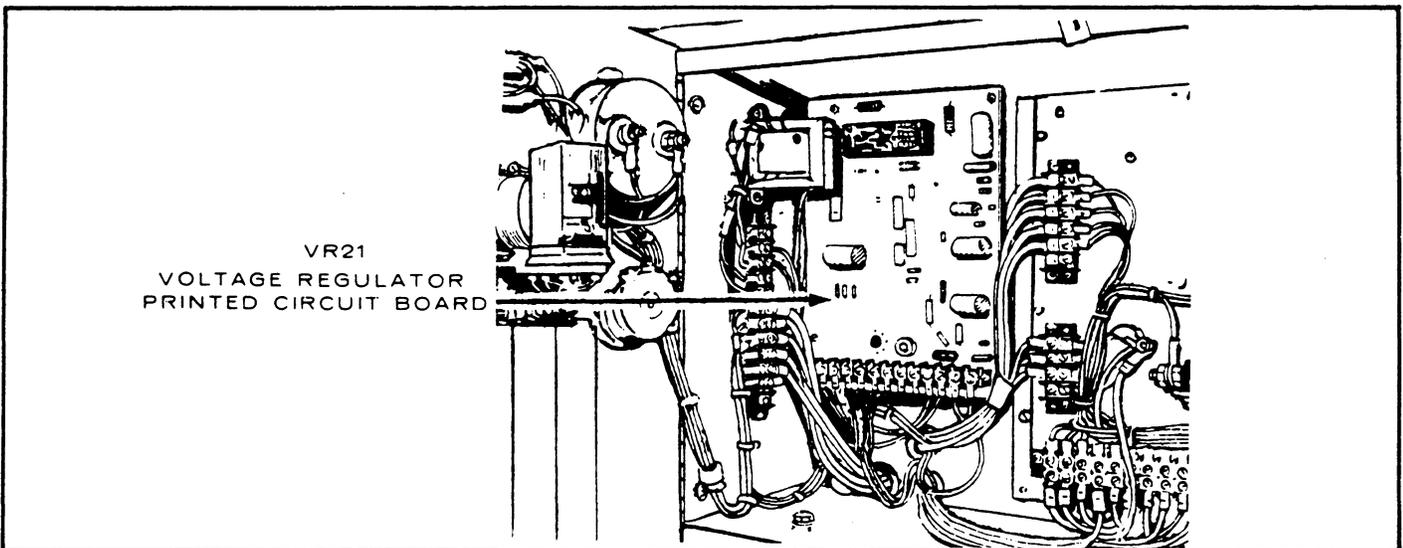

FIGURE 4. VOLTAGE REGULATOR PRINTED CIRCUIT BOARD LOCATION
4. Voltage-regulator PC Board VR21 (Printed Circuit Board) mounts inside the control box on the rear panel (left side); turn 1/4 turn fasteners on front of control box to gain access. See Figure 4.